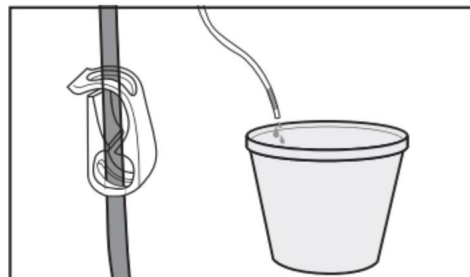

Figure 9. Closing clamp on Drain Line.
10. Using sterile technique, close clamp on Drain Line to ensure saline flows through Delivery Device during the procedure (figure 9).